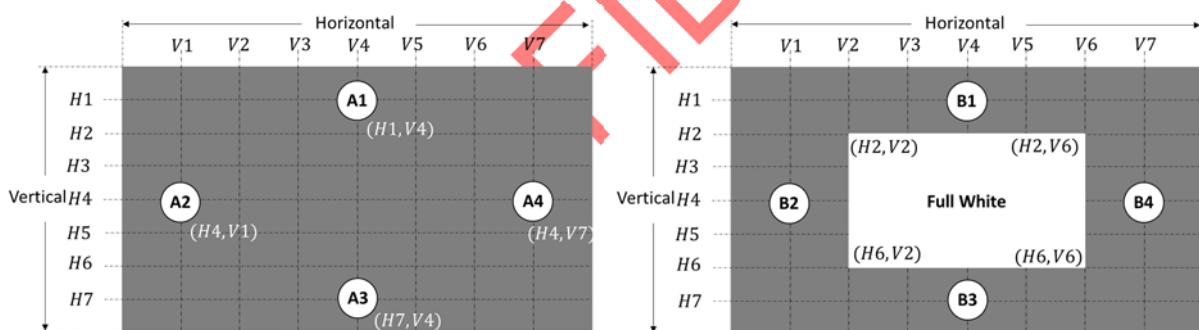

Fig 4.5 Definition of Crosstalk (2D)
Crosstalk of one area of the LCD surface by another shall be measured by comparing the luminance (A), with all display pixels set to a gray level, to the luminance (B) of that same area when any adjacent area is driven full white pattern which shown in Fig. 4.5. The gray level of background is set to 25% full gray pattern.
$$\text{Crosstalk}(\%) = \text{Max.} \left( \frac{|L_B(X) - L_A(X)|}{L_A(X)} \times 100\% \right), \text{ Where the } X \text{ is point 1 to 4 shown in Fig.4.5}$$